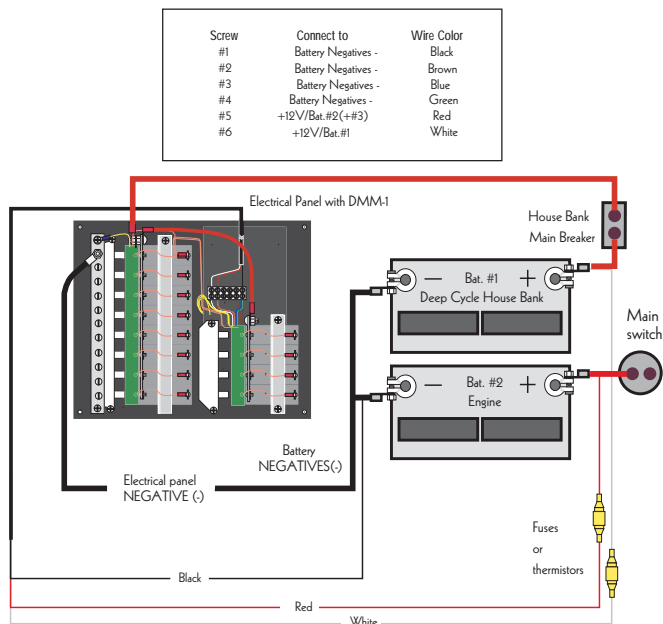

Figure 3: Installation without shunts
Figure 3 illustrates the proper wiring installation of the DMM-1 unit (without shunts) for voltage measurement and alarms only. The following steps will guide you through the procedures. Your DMM-1 is calibrated with a length of 25 feet of #18 special cable (included in our accessory kits) and we suggest to use the full length of cable for maximum accuracy.
- 1-Link all the negative battery terminals together (may be already done), with heavy gauge wire, to create a common negative point (-) (see figure 3).